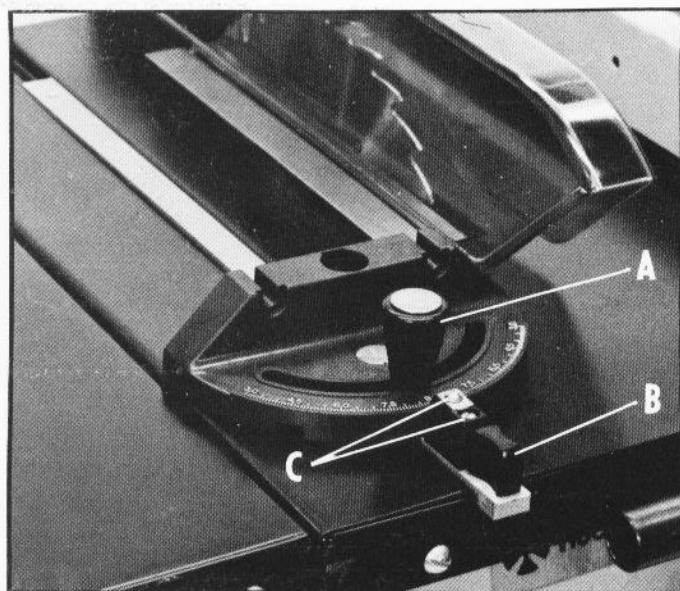

Fig. 21
The miter gage supplied with your saw is accurately constructed and equipped with index stops at 90 degrees and 45 degrees right and left. To operate the miter gage, simply loosen the lock knob (A) Fig. 21, pull out plunger (B), rotate the miter gage to the desired angle and tighten lock knob (A). When using the miter gage at 90 degrees and 45 degrees right or left, push in on the plunger (B) so it engages the slots in the miter gage body.
To adjust the miter gage, set it at 90 degrees, as shown in Fig. 21. Make a cut on a scrap piece of wood. Then with a square, check to see if the piece of wood was cut at 90 degrees. If an adjustment is necessary, loosen two screws (C) and with the plunger (B) pushed in, move the miter gage body. Tighten two screws (C) and make another cut. Continue this adjustment until you are certain you have a 90 degree cut and set the pointer to 90 degree mark on the scale.